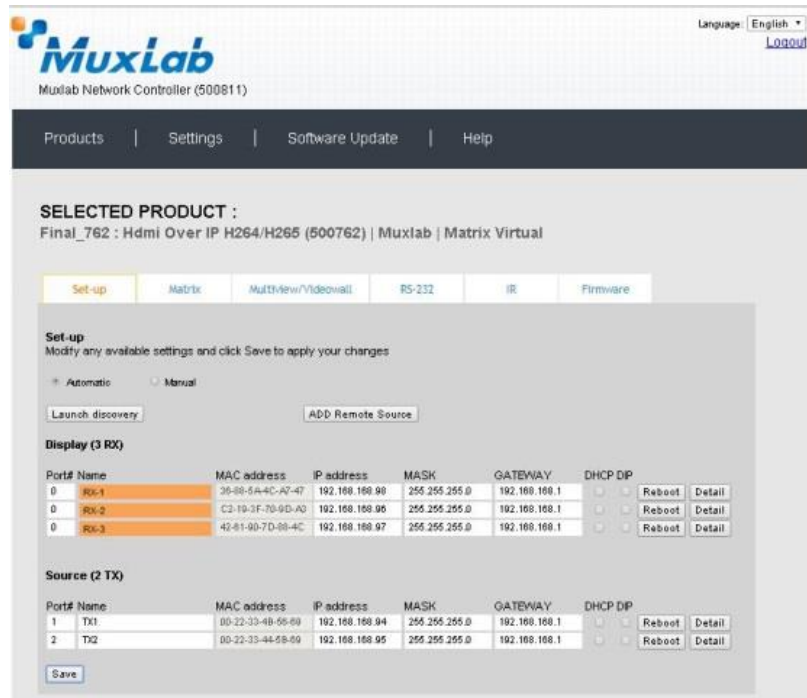

Figure 307: Name Editing
Each 500762 transmitter and receiver can be assigned an arbitrary descriptive name, normally reflecting the end device that it is terminated to. To change the name of any Display (RX) or Source (TX) device, click the **Name** field to edit its contents. Several **Name** fields can be edited before saving changes, as shown in Figure 307 (orange highlighted fields).